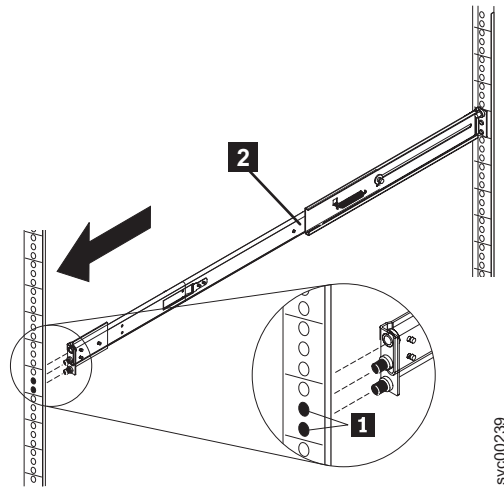

Figure 28. Extending the right slide rail
4. Extend the right slide rail **2** and insert it into the front rack mounting flange, as shown in Figure 28 on page 51, with the rail pins **1** protruding through